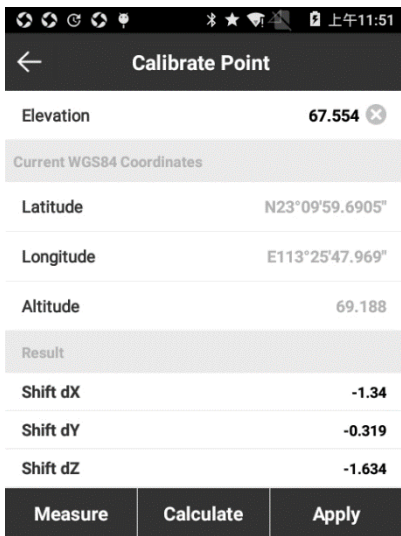

Figure 3.4-10
(2) Press [Calculate] as shown in Figure 3.4-10 to get calculate result. If the calculation result is in red font, there would pop up a prompt saying “High residuals error! Apply local offsets to current